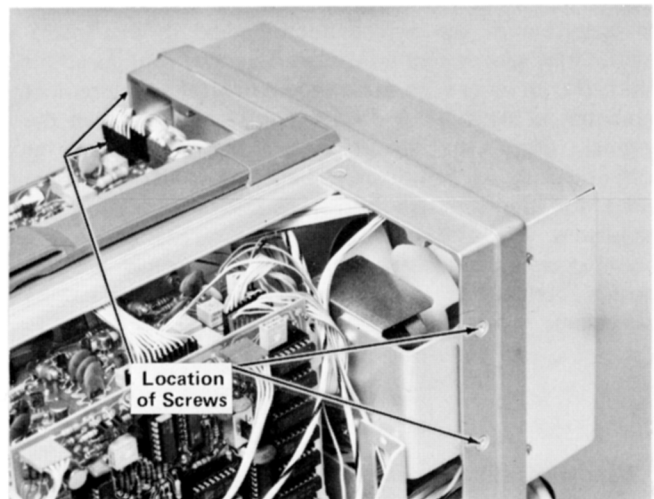

Fig. 4-7. Location of screws holding Low Voltage sub-chassis.
1. Remove the four screws holding the Low-Voltage Regulator sub-assembly to the main chassis (see Fig. 4-7).